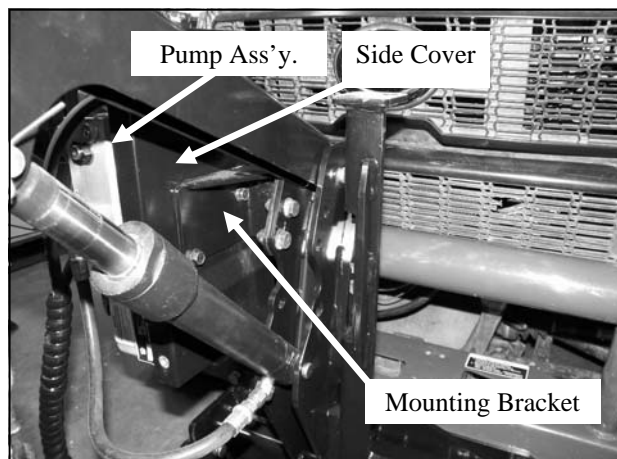

Fig. 8.1—Pump and cover installation
8.1. Per figures 8.1, 8.2, and 8.3, position Pump Assembly, Side Cover, and Mounting Bracket up against the top of the lift frame matching up mating holes on lift frame and mounting bracket. Using the two 3/8-16 x 1" bolts, and two 3/8-16 Nylock nuts, attach bracket to lift frame. Tighten the Nylock nuts until all thread slack is removed from the assembly.